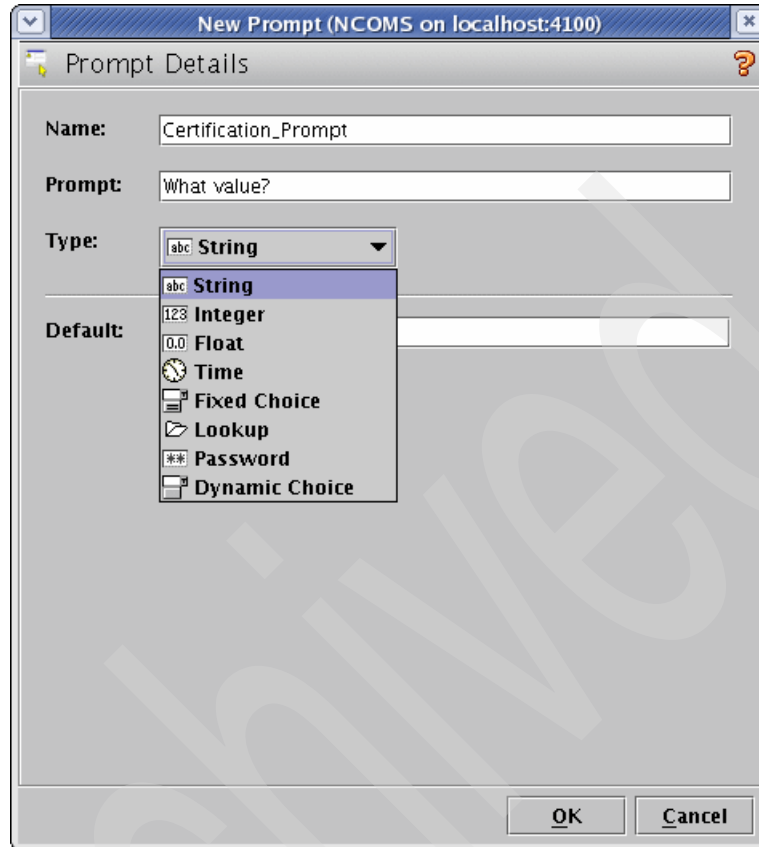

Figure 4-44 Prompt definition
- The prompt definition window is shown in Figure 4-44 on page 139.